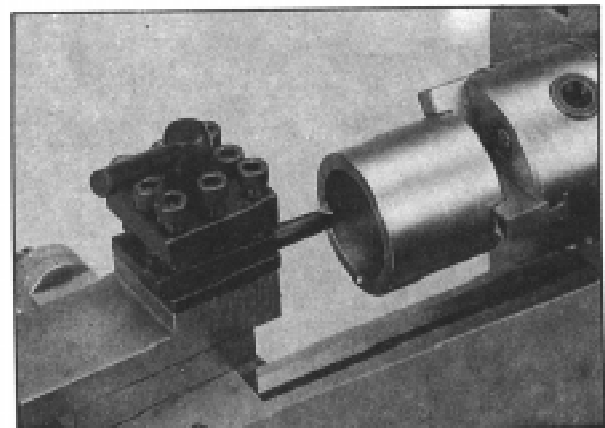

Fig. 14
2. Use the chuck to hold the workpiece firmly, and use the cutter to start lathe's face cutting (figure 14). The edge of the cutter must be at the same height as the center.